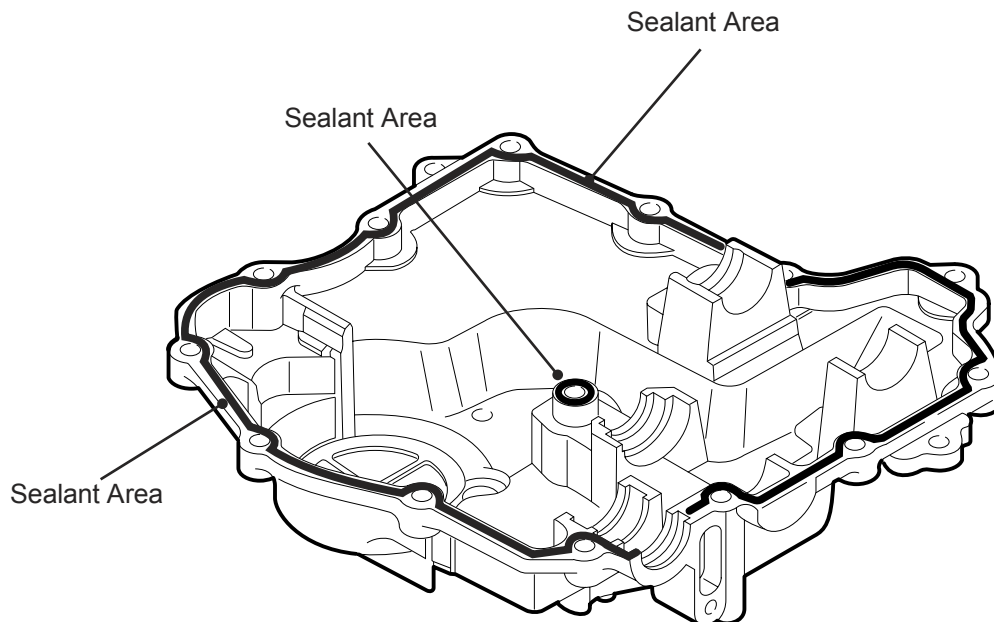

Fig. 45, Sealant Application to Lower Case
2. Apply a thin even bead of sealant to mating surface of Lower Case, following along the inside surface of bolt holes — Be sure to apply sealant around center bolt hole. (Fig. 45)